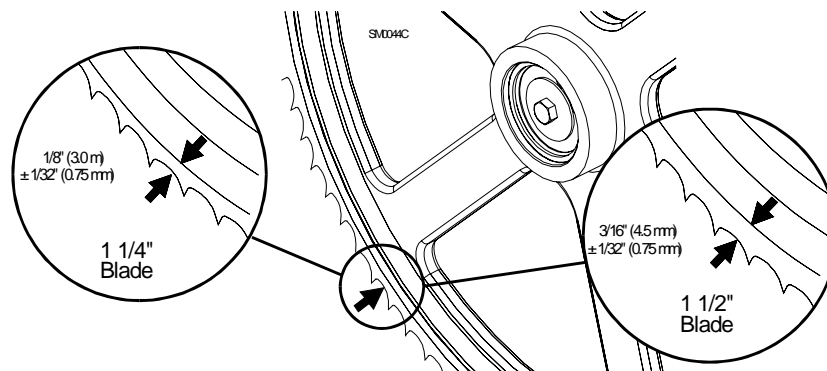

FIG. 2-5
**See Figure 2-5.** Position 1 1/4" wide blades so the gullet is 1/8" (3.0 mm) out from the edge of the blade wheel ( $\pm 1/32$  [.75 mm]). Position 1 1/2" blades so the gullet is 3/16" (4.5 mm) out from the edge of the blade wheel ( $\pm 1/32$  [.75 mm]).